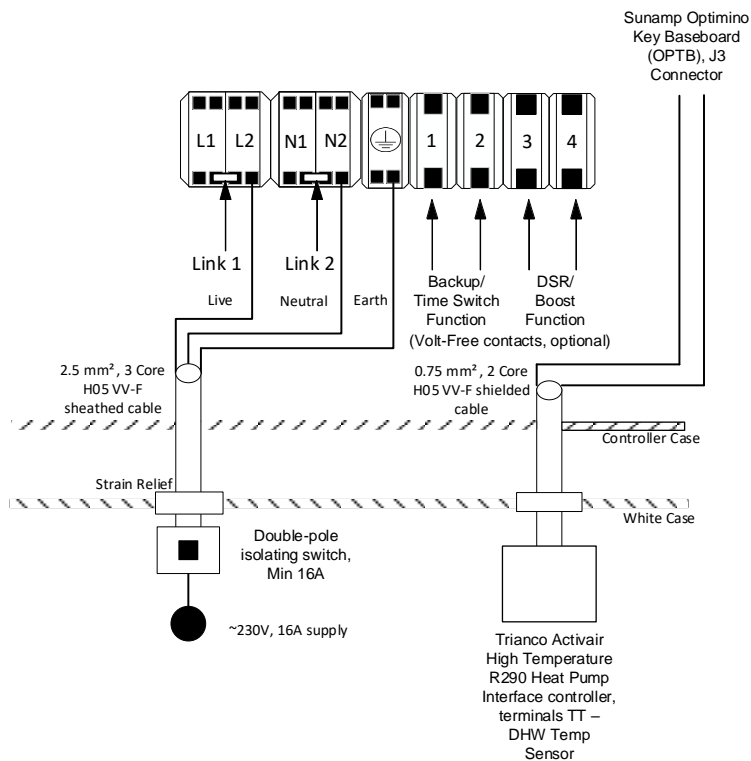

Figure TO.1 - Thermino xPlus with TO01 Optimino key
- Thermino xPlus with the "TO01" & "TO02" Optimino keys (D0084 – Section 6.4.2 for wiring instructions & Figures TO.1 & TO.2 below)
J3 on the Optimino Board J3; please see Figures TO.1 & TO.2 below for reference.